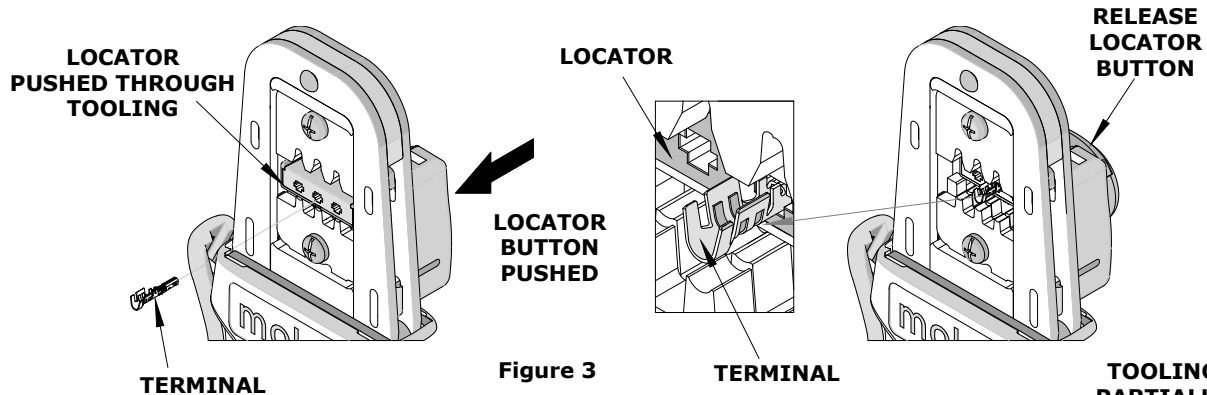

Figure 3
- While holding the locator button in, load the terminal into the proper nest opening in the locator based on the wire gauge or terminal type markings on the hand tooling. See Figure 3.